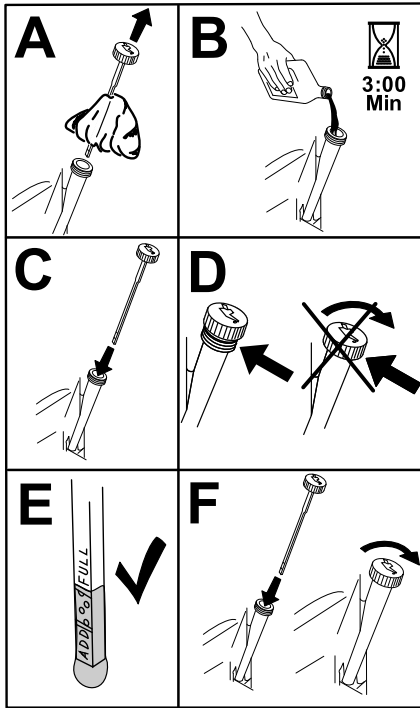

Figure 33
- Slowly pour approximately 80% of the specified oil into the filler tube and slowly add the additional oil to bring it to the **Full** mark (Figure 33).